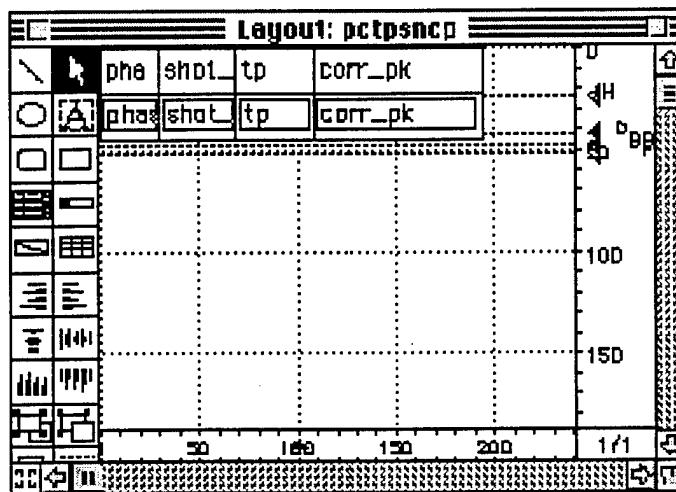

Figure 3.21: Newly created layout for ecc_measure
7. A layout like the one shown in Figure 3.21 will now be displayed. Since this layout is good enough for display purposes, close this window and switch to the **User** environment.